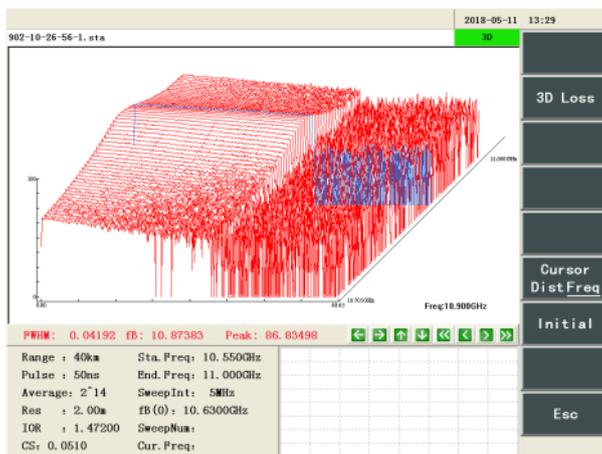

Figure 5-1 “3D” state and 3D display sub-menu
The 3D display sub-menu is shown in the function menu in Figure 5-1. The functions of the button are described below.
① The 3D curve displayed in the window can be scaled by clicking the button in the waveform operation area with the left mouse button or the touch screen. The curve will shrink along the horizontal direction by pressing the button, the curve will enlarge along the horizontal direction by pressing the button. The movement of the cursor can be controlled by pressing the button, the indicate fast movement, and the button moves the cursor to the left by ten units at a time, the button moves the cursor to the right by ten units at a time. indicate normal movement, and the button moves the cursor to the left by one unit at a time, the button moves the cursor to the right by one unit at a time.
② The buttons and on the front panel can be used to scale the horizontal coordinate.
③ Use the knobs on the knob keypad of front panel to move the cursor in the window: Rotate the cursor clockwise to move the cursor to the right, and rotate the cursor counterclockwise to move the cursor to the left. Click the [Quick] button on the front panel, the movement speed of mobile knob will be ten times faster, click the [Quick] button again to return to the original speed.
(2) In the “3D” state, set the [Cursor] function button to “distance/frequency”, the cursor operation mode will be in the frequency mode, the cursor shape is dark curve as shown in Figure 5-1, and the curve shown by the cursor is the loss distribution curve corresponding to the selected distance point and frequency point, the lower right corner of the “3D” window displays the frequency information of the current cursor. At this time, the cursor movement operation or the curve scaling operation can be performed on the horizontal axis.
① In the “3D” state, the curve displayed in the window can be operated through clicking the buttons in the waveform operation area through the left mouse button or touch screen. indicate fast movement, and the button moves the cursor to the left by ten units at a time, the button moves the cursor to the right by ten units at a time. indicate normal movement, and the button moves the cursor to the left by one unit at a time, the button moves the cursor to the right by one unit at a time.
② Use the knobs on the knob keypad of front panel to move the cursor in the window: Rotate the cursor clockwise to move the cursor to the right, and rotate the cursor counterclockwise to move the cursor to the left. Click the [Quick] button on the front panel, the movement speed of mobile knob will be ten times faster, click the [Quick] button again to return to the original speed.